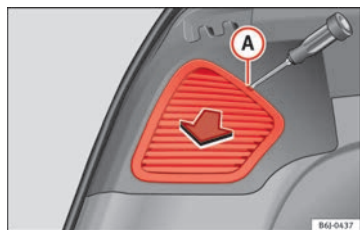

Fig. 180 Side lights.
- Remove the lid with a flat screwdriver, placing it in notch **A** ⇒ Fig. 180.